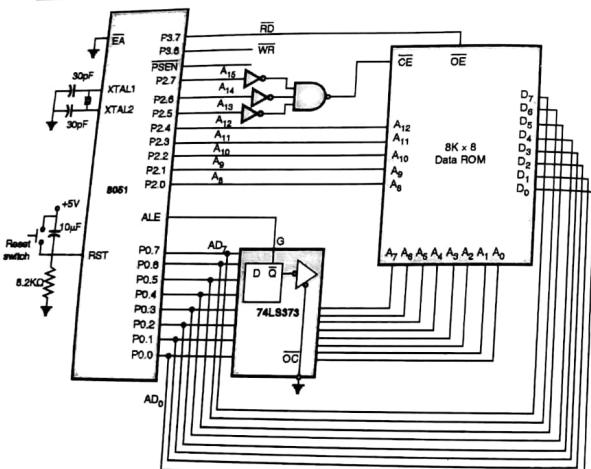

Fig. 8.2.9 : 8051 Connection to External Data ROM
- The 8051 has 64 KB data memory space and 64 KB program memory space. Program memory space is accessed using the program counter (PC) to locate and fetch the instructions.
- To connect 8051 to external data ROM containing we use RD (pin 3.7) as shown in Fig. 8.2.9